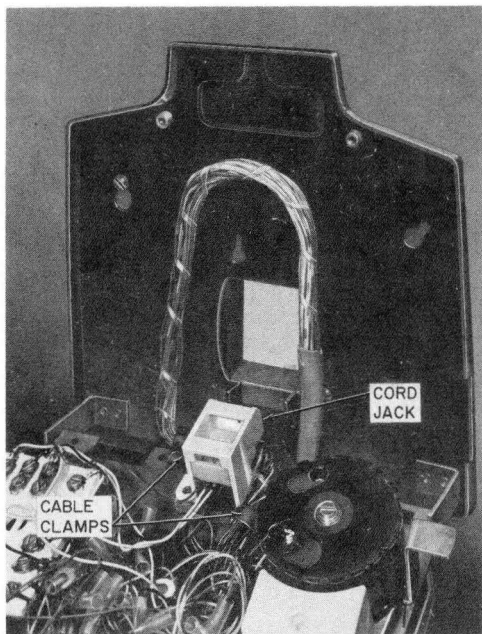
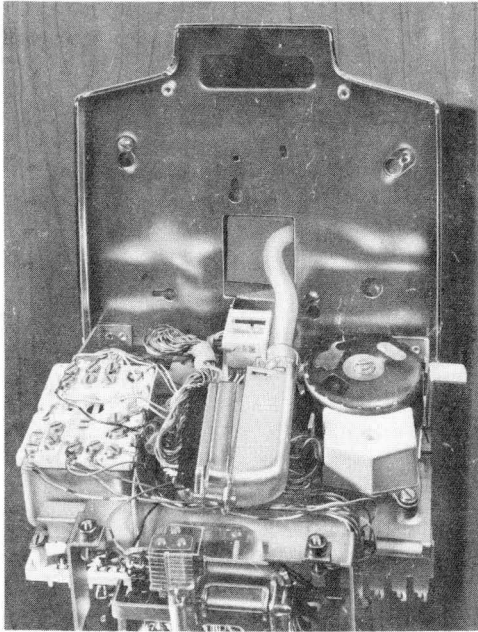
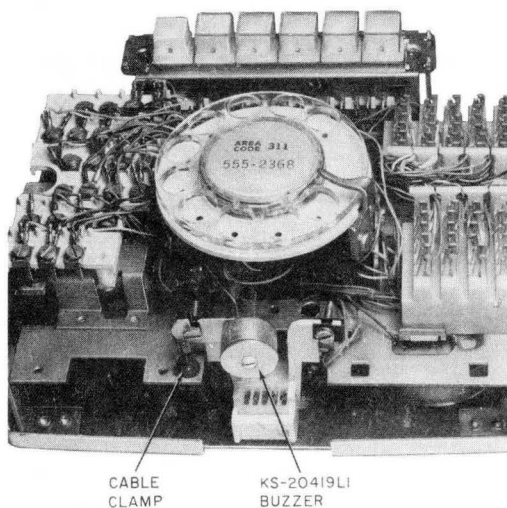

Fig. 7—Inside Wiring Cable, Exposed Wiring (Early Version)
Fig. 9—Connector Cable and D-180375 Kit of Parts (Early Version)
Fig. 13—KS-20419L1 Buzzer Mounted on 851-Type Telephone Set
- (1) Remove sheath to surface of outlet box or bottom of hole in base pan, depending on method of wiring.
- (2) Remove cable clamps. Pinch legs of clamp from front of chassis (Fig. 13).
- (3) Slip one of the clamps provided with set around conductors approximately 9 inches from end of sheath. Add second clamp 2 inches above first.
- (4) Form slack loop as shown in Fig. 7 or 8 and install first clamp in hole to left of cord jack.
3.06 On all sets except CM codes, if the set is served by the connector equipped end of an A25B connector cable, a D-180375 Kit of Parts must be used to obtain raw-ended conductors for termination. The mated connector and plug should be located as shown in Fig. 9. Check that connector and plug do not interfere with operation of line switch. Cable is routed and fastened in same manner as IW cable (Fig. 7 and 8).
3.16 Buzzer: The KS-20419L1 buzzer is mounted on an insulated bracket below the dial (Fig. 13). If required, an additional KS-20419L1 may be added or the existing KS-20419L1 may be replaced by the KS-8109L2 buzzer (14-30 volt ac or dc) which would be mounted using both screws.